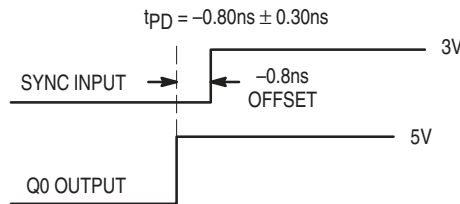

Figure 2. Depiction of the Fixed SYNC to Q0 Offset (t_{PD}) Which Is Present When a 470KΩ Resistor Is Tied to VCC or Ground
2. A 470KΩ resistor tied to either Analog VCC or Analog GND, as shown in Figure 2., is required to ensure no jitter is present on the MC88LV926 outputs. This technique causes a phase offset between the SYNC input and the Q0 output, measured at the pins. The t_{PD} spec describes how this offset varies with process, temperature, and voltage. The specs were arrived at by measuring the phase relationship for the 14 lots described in note 1 while the part was in phase-locked operation. The actual measurements were made with a 10MHz SYNC input (1.0ns edge rate from 0.8V to 2.0V). The phase measurements were made at 1.5V. See Figure 2. for a graphical description.